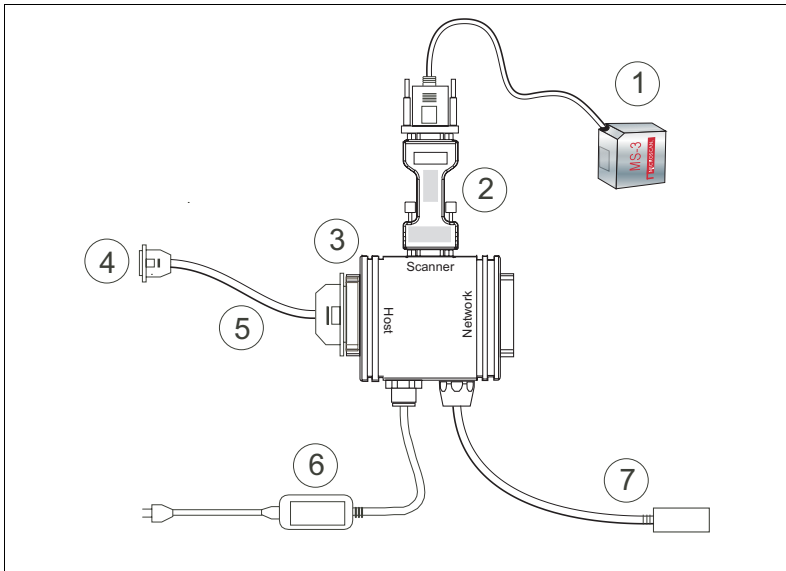

Figure 1-1 Hardware Required
a. See figure 1-1 for diagram of system.